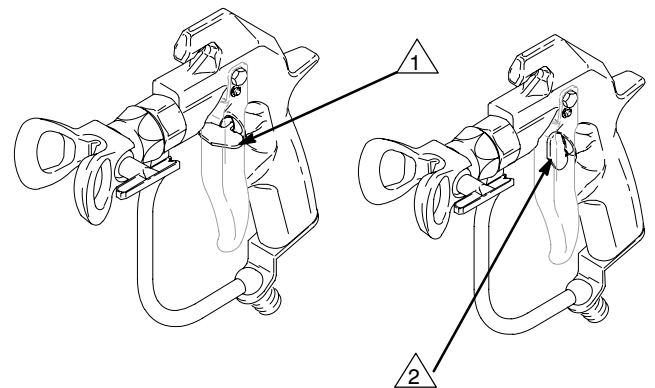

Fig. 1
1. To lock the gun trigger safety, turn the safety to a right angle with the gun body. See Fig. 1.
2. To unlock the gun trigger safety, push the safety out and turn it parallel with the gun body. See Fig. 1.